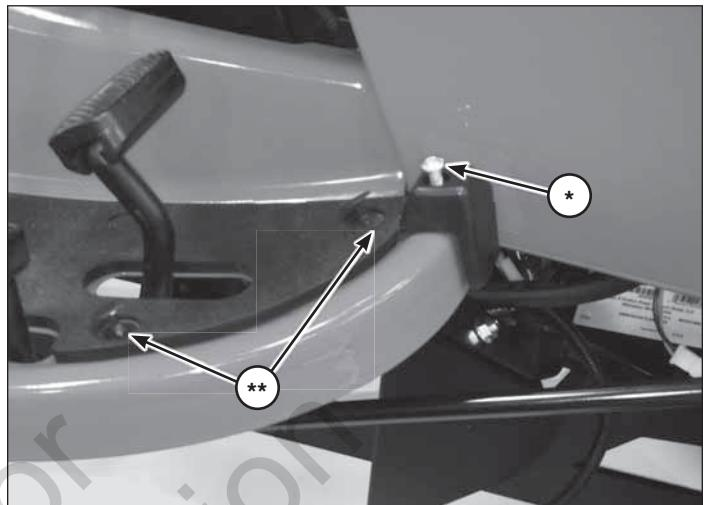

Figure 17
1. Remove the torx screw (\*, Figure 17) and clips (\*\*) from the right foot rest pad. Peel the foot rest pad back.